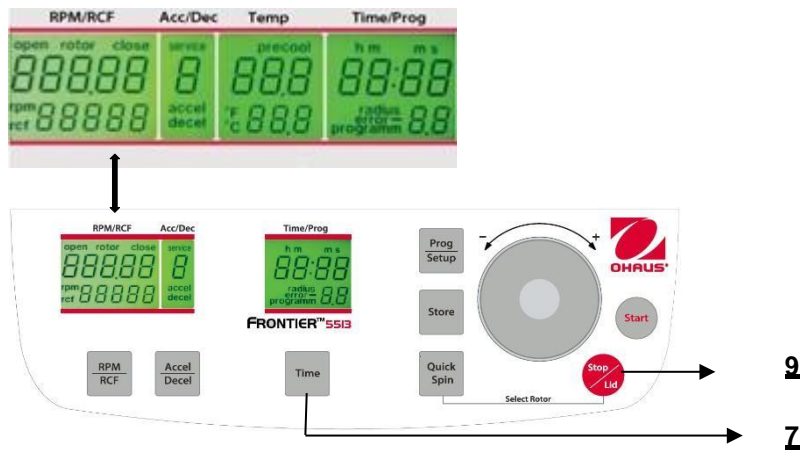

Figure. 27
While the centrifuge is turned off, press simultaneously the keys "**Time**"(7) and "**Stop/Lid**" (9) and turn on the mains switch of the centrifuge. Now release both keys and as a result a display test is executed for approx. 5 seconds. All indicators will appear at the same time (see figure 27).